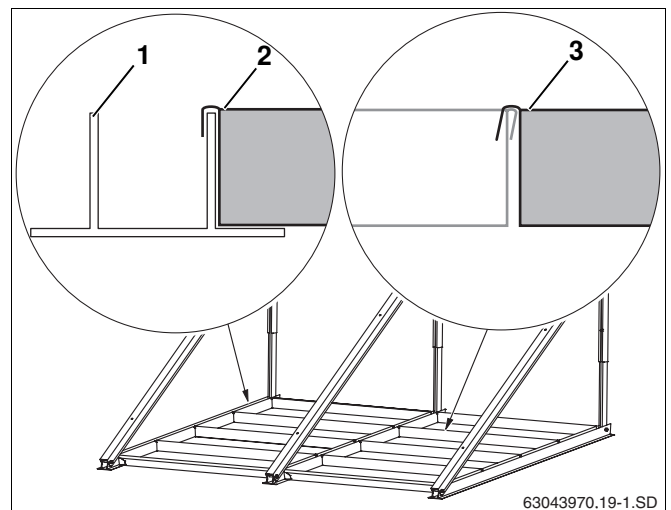

Fig. 27 4 loading trays per collector
- Insert loading trays (Fig. 27, **Item 2**) into lower profiles (Fig. 27, **Item 1**) and into each other (Fig. 27, **Item 3**).